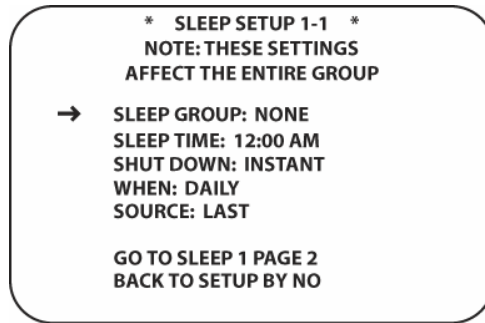

Figure 116 Sleep Setup 1-1
3. Using the ▼/▲ **Navigation Button [oval 16]** position the cursor next to SET SLEEP TIMES. Press the **Set Button [oval 18]**. The SLEEP SETUP 1-1 screen will appear. **(Figure 116)**